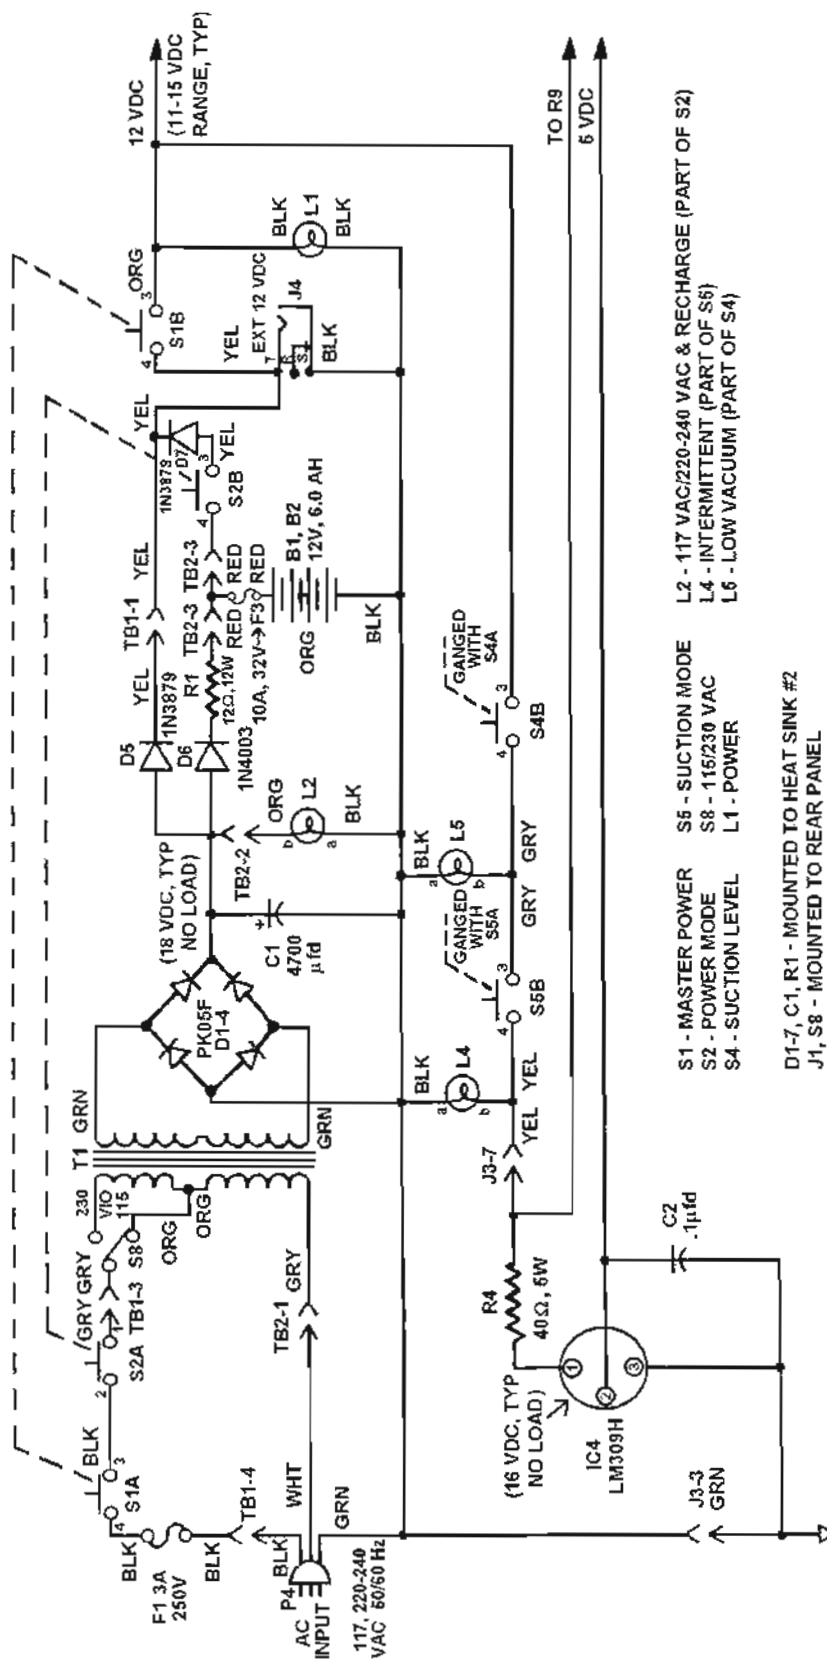

Figure 3-2. Power supply and charging circuit schematic.
3-18. AC to DC rectifier, power and charging circuits (fig 3-2).
3-20. Intermittent operation (fig 3-2).
c. *5-Volt power supply (fig 3-2).*
(1) Components R4, IC4 and C2 provide a regulated low voltage power supply for the intermittent timing and switching circuitry. Resistor R4 acts as a current limiter to the regulator input while C2 provides output voltage filtering of transient power surges.
(2) The regulator output is typically 4.8V at maximum low vacuum levels (motor off), approximately 3V during motor turn-on (initial surge), and rises to about 4.5V for the duration of the motor on cycle. All components are mounted to the PCB.